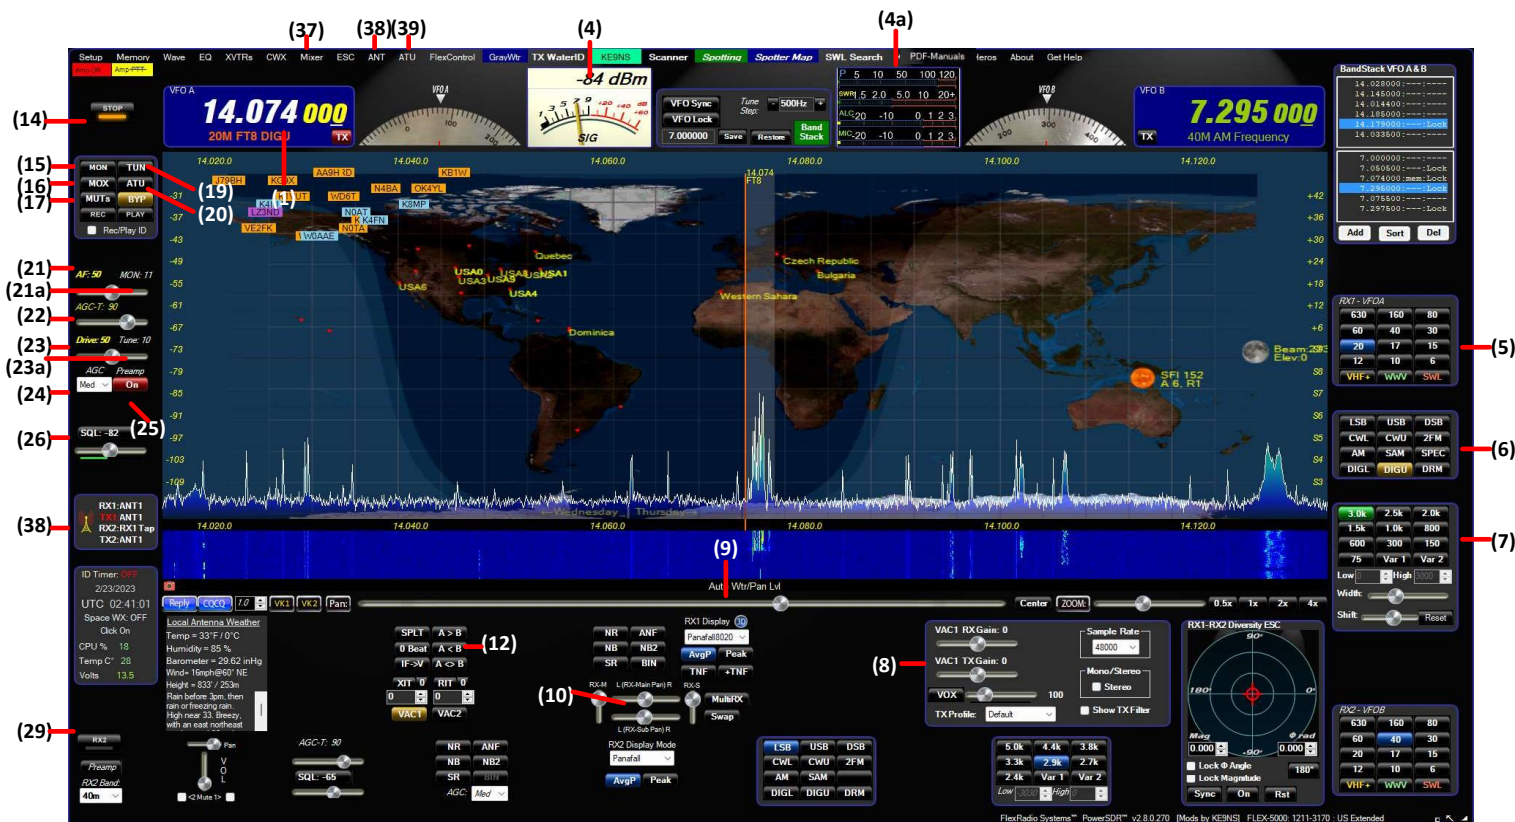
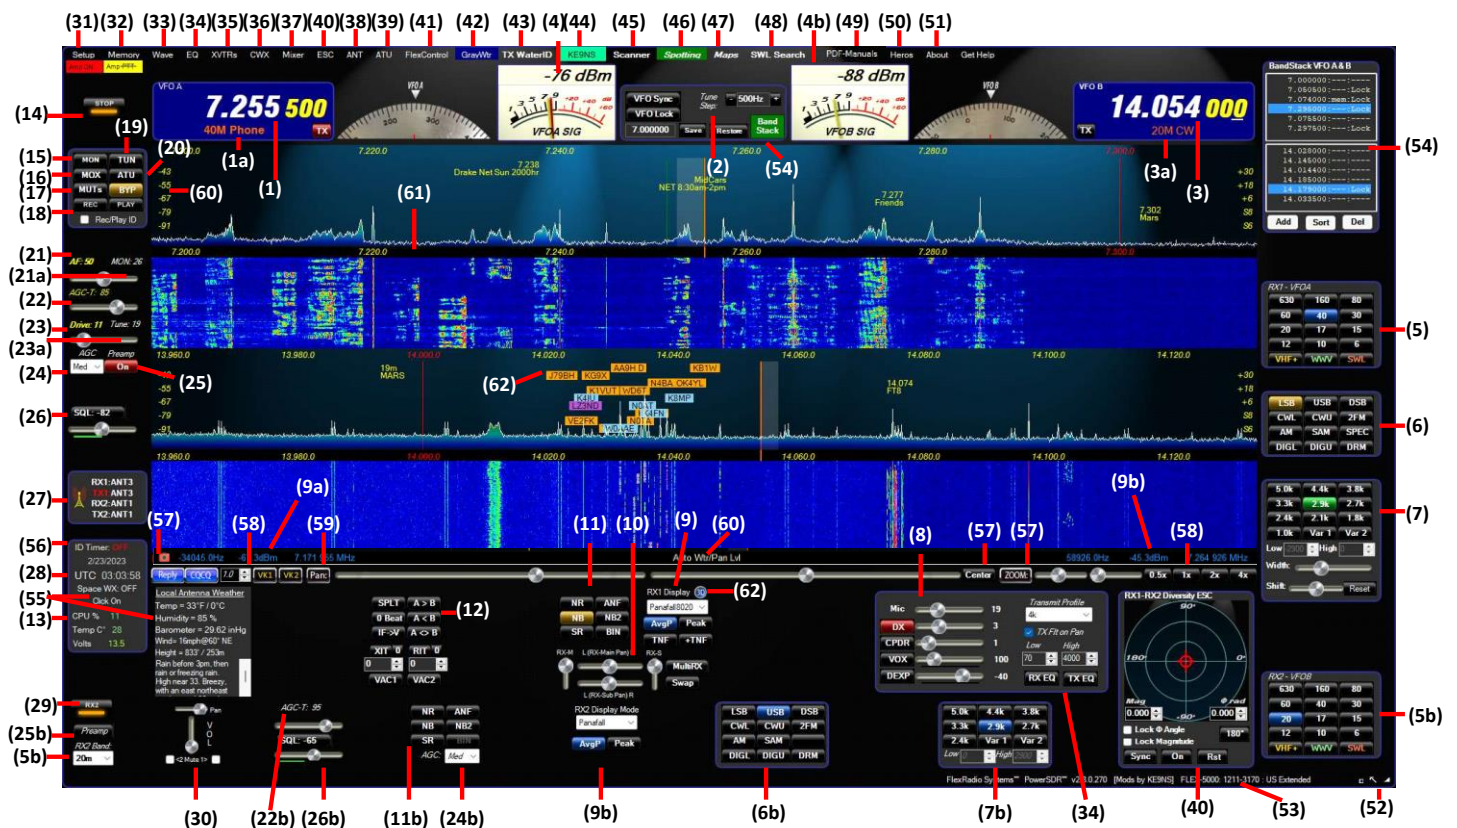

Figure 44: Front Panel Controls Used for Basic Digital Mode Operation
Figure 46: PowerSDR 2.0 Front Console
Please use Figure 44 to identify the controls referenced in the following step-by-step instruction. For consistency we have used the same control identifiers as in Figure 46 on page 73 and for clarity we have left out any identifiers of controls not referenced.
If your digital mode software requires a stereo connection, check **Stereo**. To automatically enable VAC for **DIGU**, **DIGL** and **DRM (6)** modes, check **Auto Enable**. When operating these modes, the Front Console also shows several controls relating to VAC (8), as shown in Figure 44 above). You can now use **VOX** to PTT the radio. This prevents audio from becoming out of sync after hours of continuous operation or Check **Reset VAC every hour**.
Right Click on the digital dBm value area will toggle the Meter RX/TX selection menu OFF/ON. Setup-> Appearance-> Meter-> **Meters On Top** (just like Figure 46)
BandStack Window: Click on the "Band Stack" button (See figure 51a). With the BandStack window active, click the Add, Sort, or Del (Delete) button). Right click on bandstack memory to "Lock" it from being overridden. **Left Click** on any band stack memory will jump to this memory (VFOA on top and VFOB on bottom). If Meters on top, BandStack window appears top right (see Figure 46). **Right Click** on "Band Stack" button for Floating Band Stack Window.